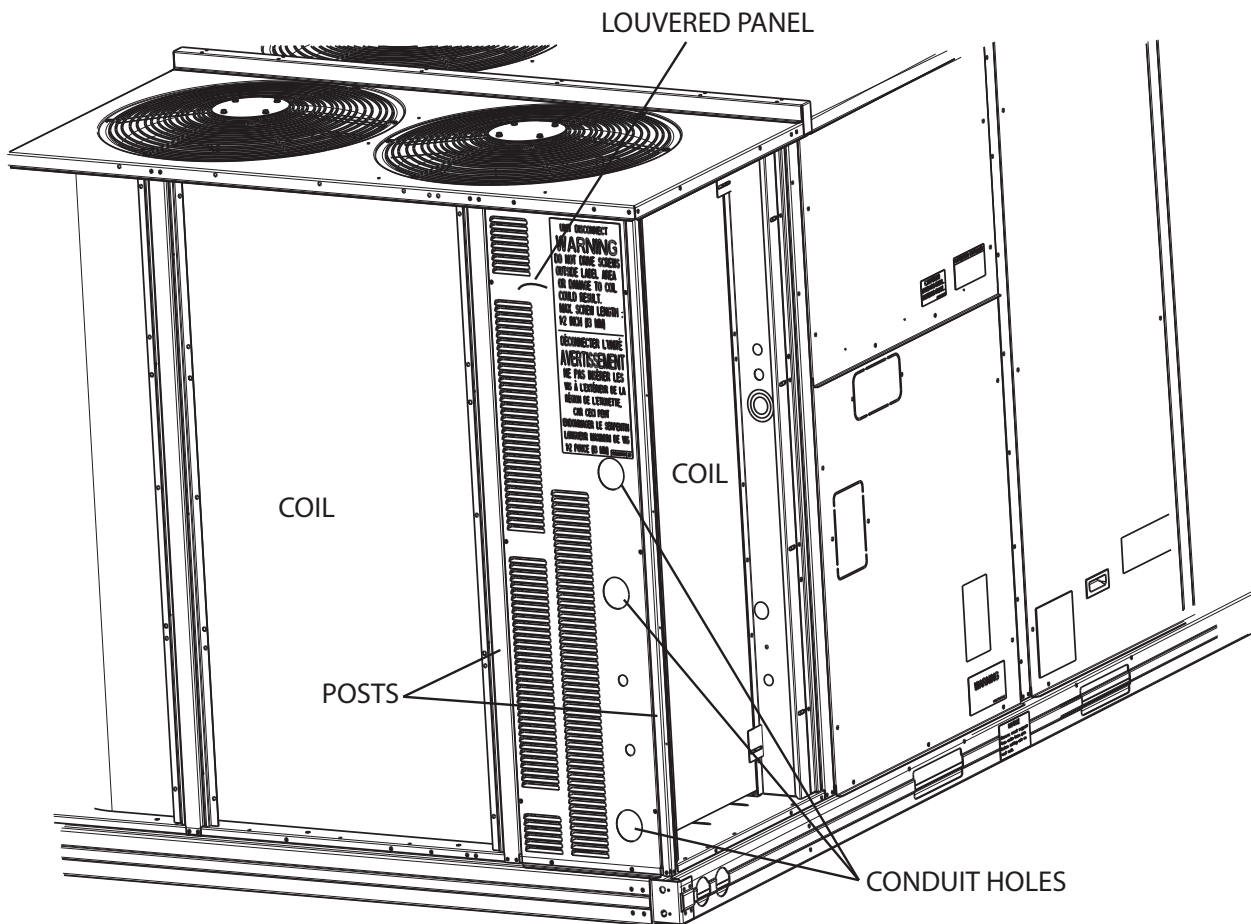

Fig. 1 — Bracket Mounting Location
3. Locate the bracket in the corner of the unit as shown in Fig. 1 and 2.